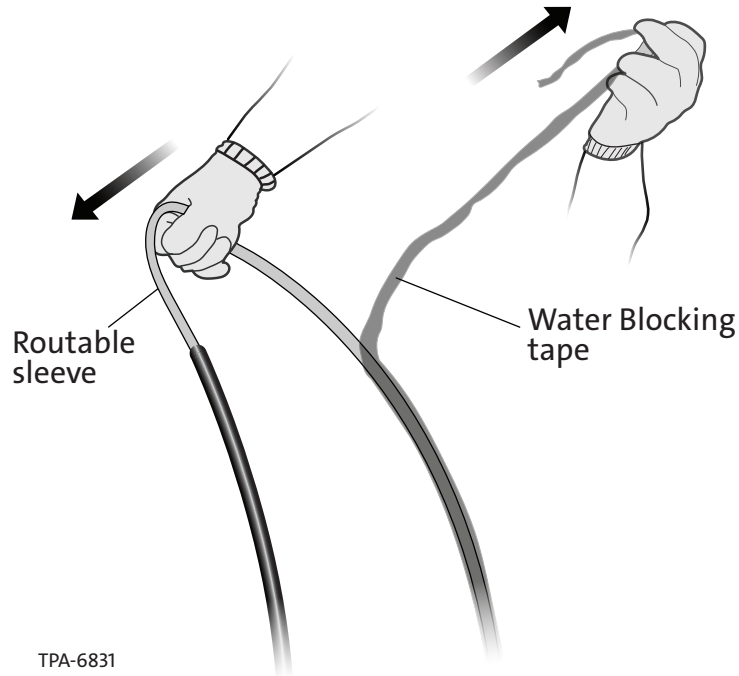

Figure 24
Step 5: Remove water blocking tape (Figure 24).